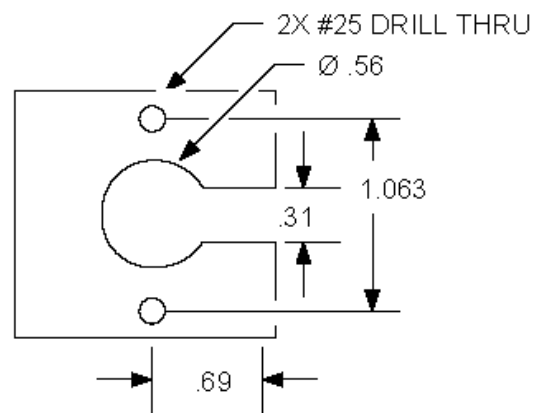

Figure 3: Recommended Mounting Plate Dimensions
1. Drill a 0.56 (9/16) inch hole in the middle of the plate, then drill two #25 holes 1.063 (1-1/16) inches apart on either side of the center hole. Cut a 0.31 (5/16) inch-wide slot in the mounting plate. See Figure 3. The plate should be a thickness of 1/8 inch or less.